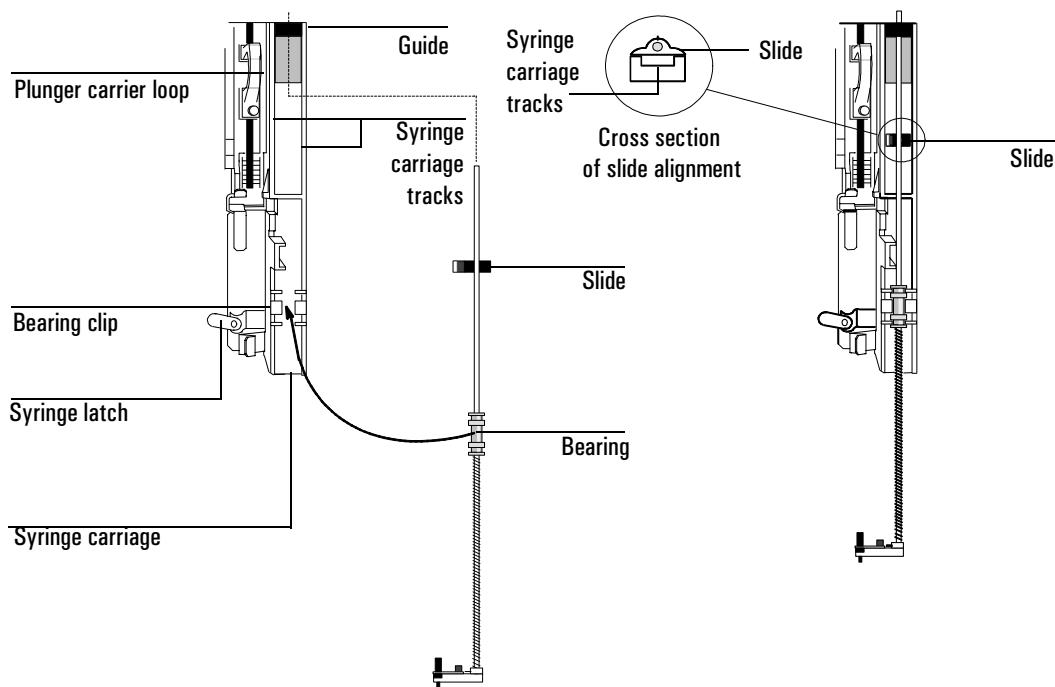

Figure 14 Installing the needle support assembly (250-/320- μ m shown)
7. Turn the needle support assembly so that the flat surface of the slide glides up and down the syringe carriage tracks as shown in Figure 14.